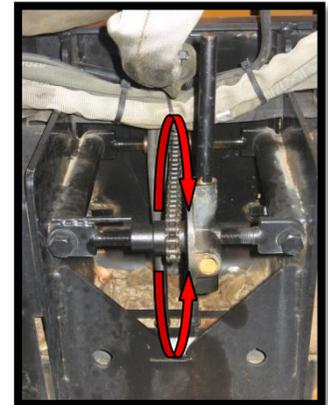

Fig. 6
7. Null out crown and valley adjustment by loosening thru-bolt and nut on screed cross tube on right side (slotted) Fig.5 , then adjusting crown turn buckle until main screed is level to ground. Fig. 6